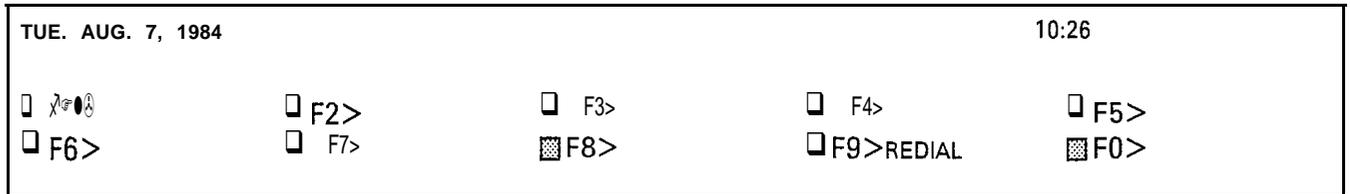

Figure 3-2 Attendant Console Display in the Idle Condition
3.04 When the console is in the idle condition the LCD is as shown in Figure 3-2. The first line displays the date, time and number of calls waiting (C/W). Line 2 is blank and lines 3 and 4 display the softkey numbers (F1 to F0). Softkey F9 will display REDIAL; this enables the Attendant to automatically redial the last external/internal number manually dialed from the Attendant Console by pressing softkey F9. All other softkeys; i.e., F1 to F8 and F0 are disabled in the idle condition.